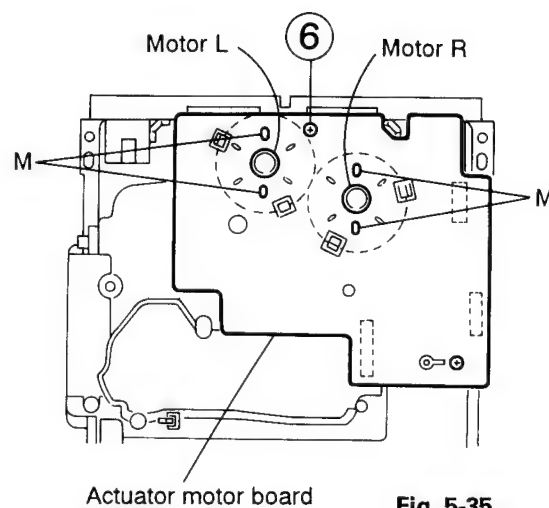

Fig. 5-35
(See Figs. 5-35 and 5-36)
1. Absorb the four soldered positions (M) of the right and left motors with a soldering absorber (See Fig. 5-35).